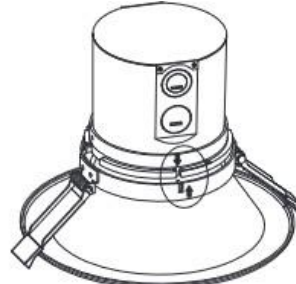

Figure 1
3. Match the slot of the (PLT-90287 or PLT-90288 or PLT-90536) LED engine and trim according to the direction of arrows as shown. (Figure 1)